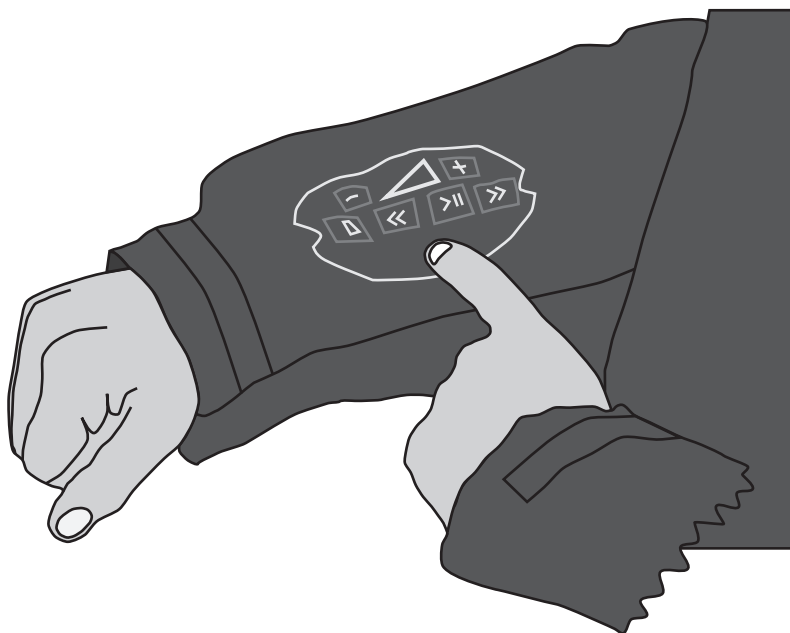

Figure 6
- 6 (a) Figure 6 shows a coat sleeve with integrated media player controls. The controls use quantum tunnelling composite (QTC) to operate a media player.